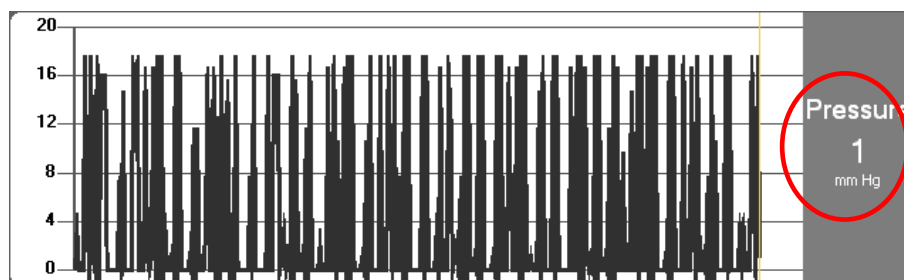

Fig 28
- the infusion circuit pressure (Fig 28).